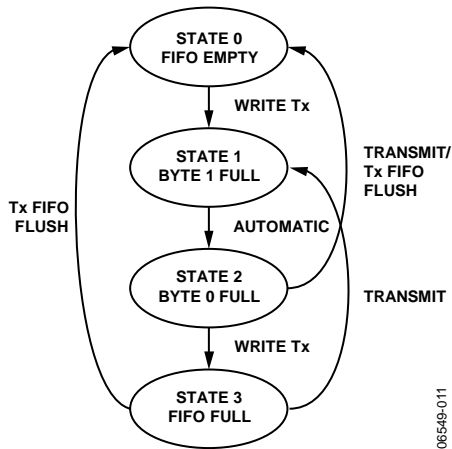

Figure 13. Transmit FIFO State Machine
- If Byte 0 is empty, the byte in Byte 1 gets pushed to Byte 0 automatically. This is described in the state machine (see Figure 13). Note that the states are visible to the user in the I2C0FSTA register.